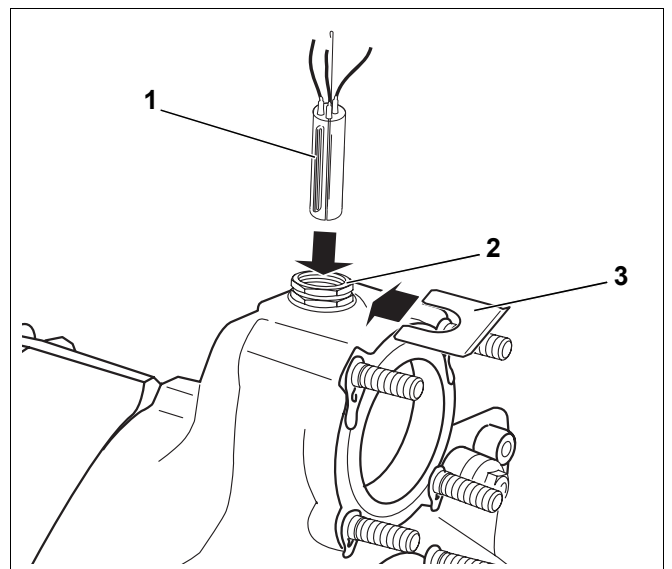

Fig. 45 Sensor bundle installation
The sensor bundle (three sensors, one sensor blank Fig. 45, **Item 1**) connected to the control unit is fitted into the 3/4" sensor well.
- Lead the capillary sensor to the measuring point on the boiler and insert it into the sensor well (Fig. 45, **Item 2**); then secure the assembly with a sensor securing device (Fig. 45, **Item 3**).